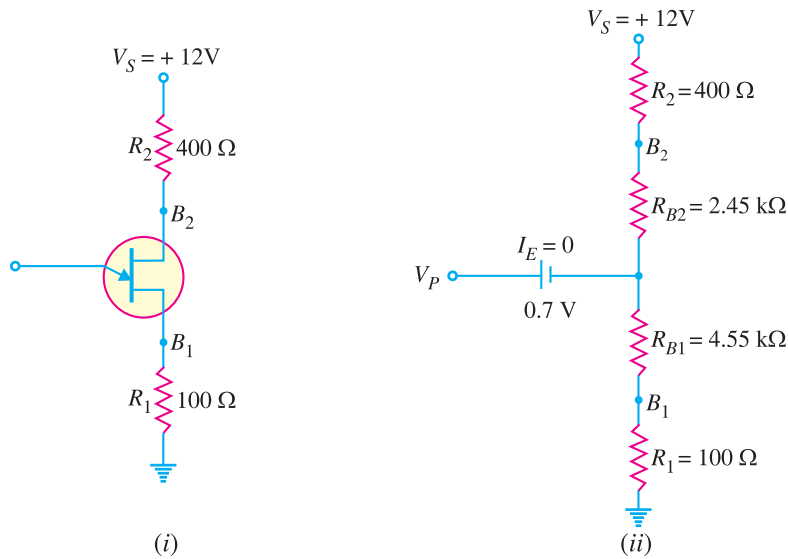

Fig. 21.29
**Example 21.10.** Fig. 21.29 (i) shows the  $UJT$  circuit. The parameters of  $UJT$  are  $\eta = 0.65$  and  $R_{BB} = 7 k\Omega$ . Find (i)  $R_{B1}$  and  $R_{B2}$  (ii)  $V_{B1 B2}$  and  $V_P$ .
(ii) Fig. 21.29 (ii) shows the *UJT* circuit model. Because *UJT* is *OFF*,  $I_E = 0$ . We can find  $V_{B2B1}$  by the voltage-divider rule.